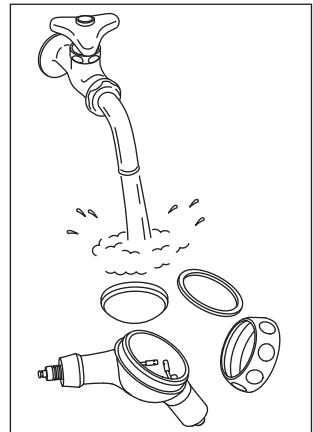

Fig. 20
3) Wash away the Perio Mate Powder adhering to the inside of the Powder Case/Powder Case Cap under running water. (Fig. 20)